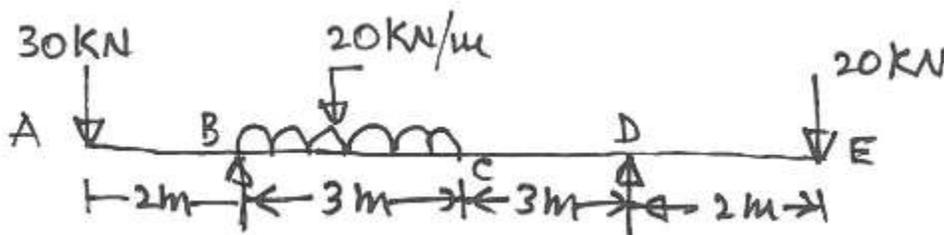

Fig.1
b) Draw the SFD and BMD for the following both sides overhanging beam shown in Fig.1 indicating values at salient points. 8 M